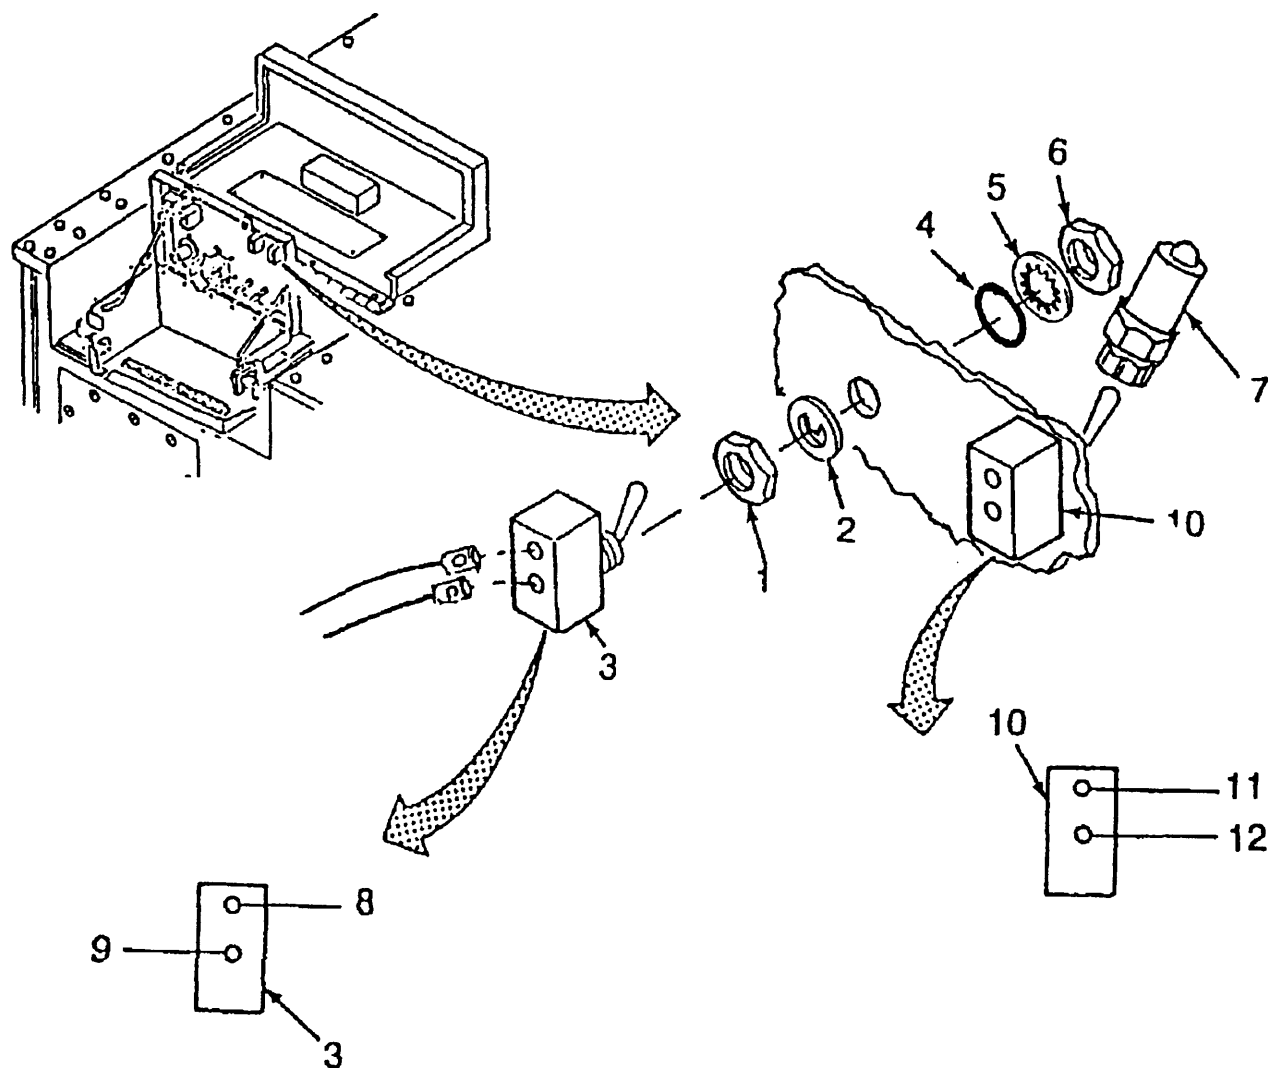

Figure 4-33. Control Box Assembly, Purge and Flame Reset Switches
c. Assembly - continued (Refer to Figure 4-33)
(15) Install nut (1), locking ring (2), switch (3), preformed packing (4)(Item 39, App H), lockwasher (5) and nut (6).
(16) Install extension (7).
(17) Connect wire S4-1/TB1-9(8) and wire S4-2/S1-7(9) to Purge Switch (3).
(18) Connect wire S7-1 (11) and wire S7-2 (12) to Flame Reset Switch (10).